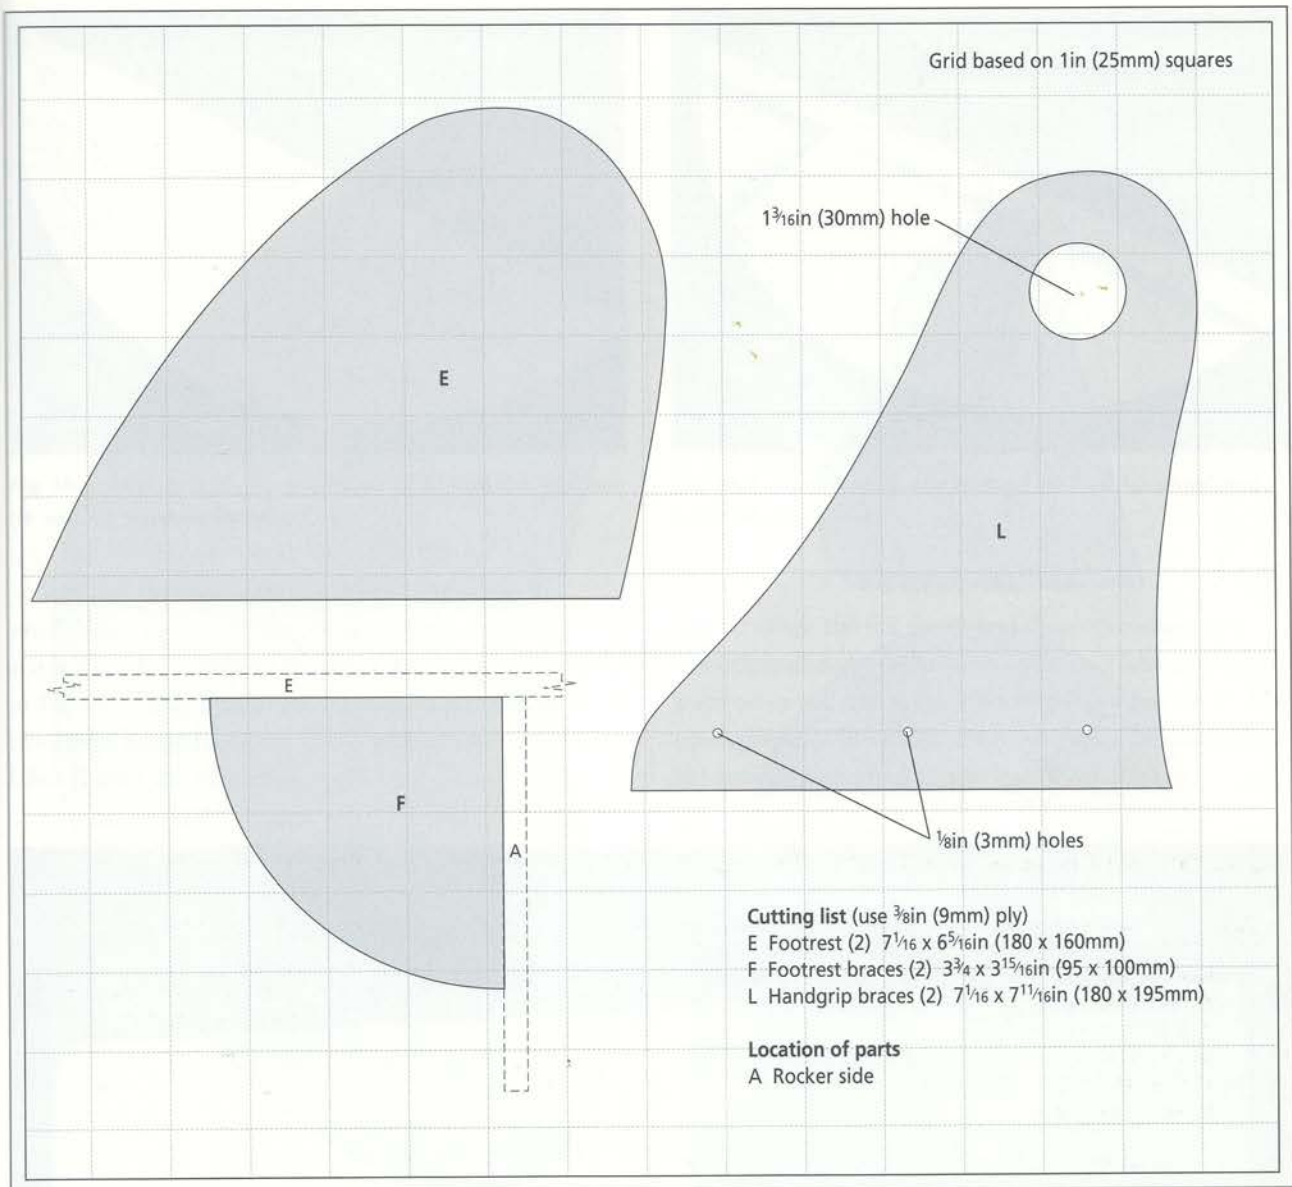

Fig 18.4 Enlarge E, F and L from the grid. Part F is shown in relation to A and E.
Using panel pins and a hammer, temporarily pin together the two pieces of ply for L. Then saw to shape (see Fig 18.4). Drill the $1\frac{3}{16}$ in (30mm) hole through both pieces. Also drill and countersink the three screw holes for attaching the L parts of the handgrip assembly to the head.
Referring to Fig 18.4, saw the two fin footrests (E) to shape. Saw the four pieces that form the footrest brackets (F) as well. Glue and pin together two parts E. Repeat the gluing and pinning with the remaining two F parts. Shape and sand the edges of the two E parts,